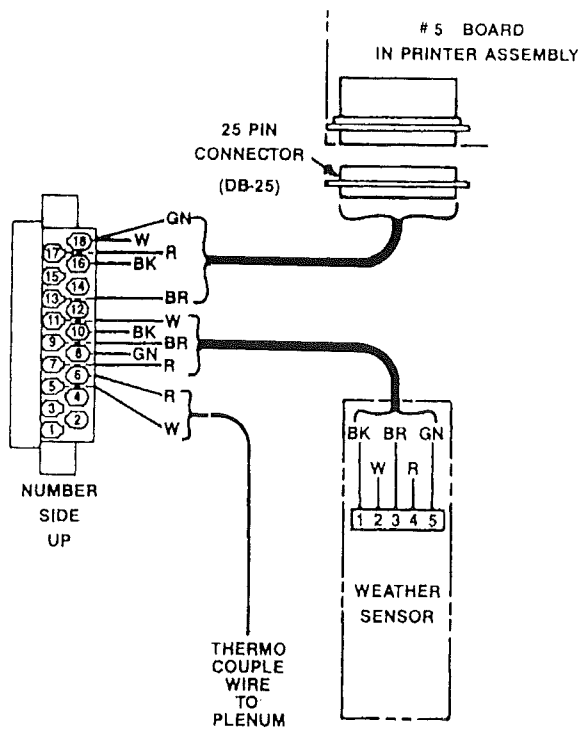

Figure 36
The (5) wire cable from the Sensor Board is pulled up through the bushing and the Mount Housing is secured to the bottom of the cabinet by turning the bushing into the mount housing until tight. Now place the (5) wires listed above into their correct terminals and tighten, see Figure 36.
A length of (5) wire cable will probably have to be spliced and soldered to the 8 ft. (2.44m.) cable supplied with the Weather Sensor to reach the distance selected from the dryer. Be sure to allow 36" (92cm.) from the bottom of the remote cabinet to the (36) Pin Black Connector at the top inside of the cabinet. See Figure 36.